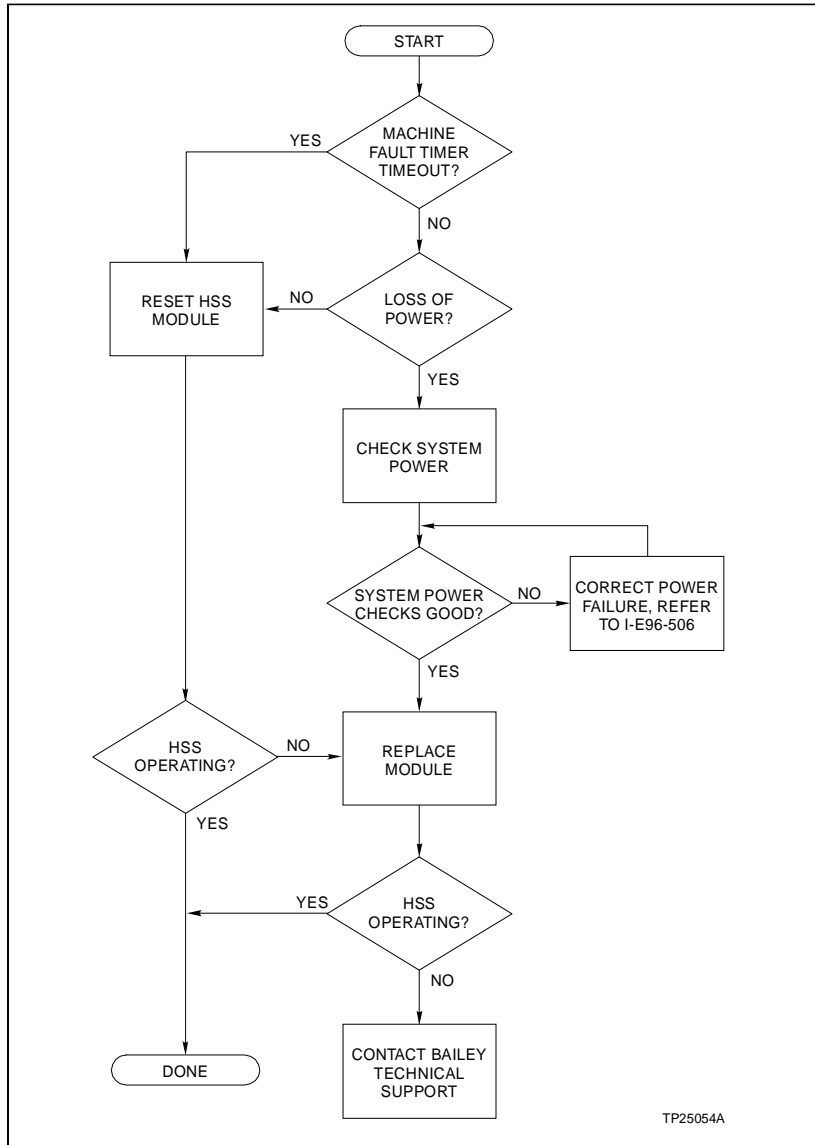

Figure 6-2. On-Line Failure Troubleshooting Flowchart
1. Use the troubleshooting flowchart in Figure 6-2 to locate the problem.